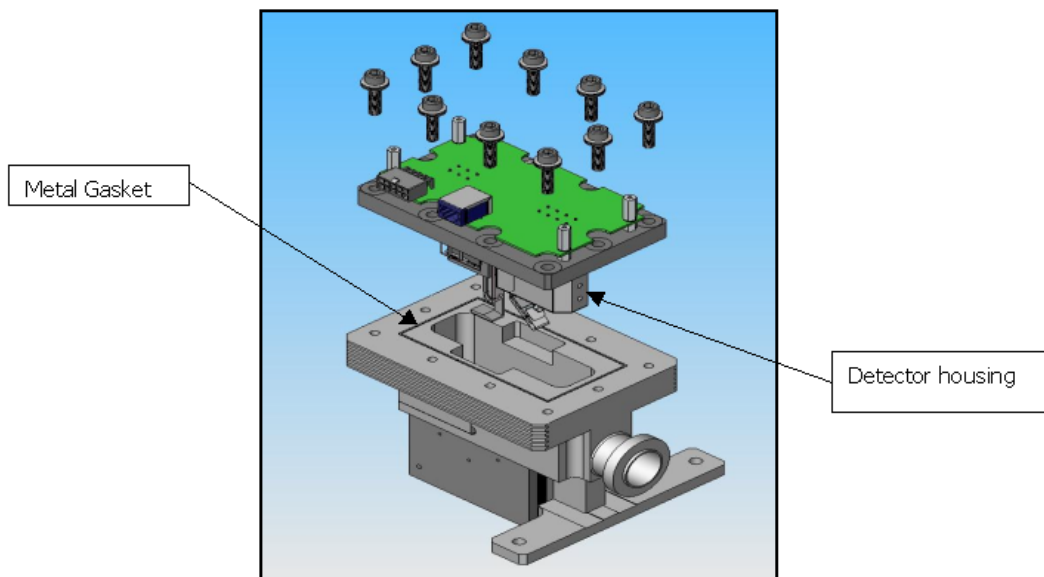

Figure 12: Spectrometer Alignment
26. Guide the spectrometer header into pocket with the detector housing closest to the inlet (Figure 12: Spectrometer Alignment).